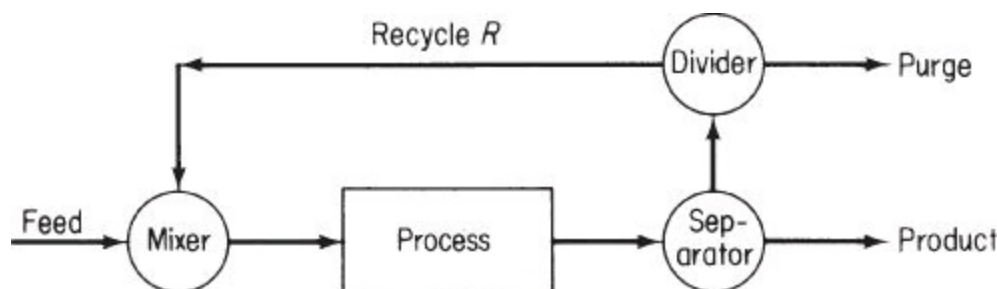

Figure 6.11. A process with a recycle stream with purge
2. A **purge** stream—a stream bled off from the process to remove an accumulation of inerts or unwanted material that might otherwise build up in the recycle stream with time of operation (Figure 6.11)